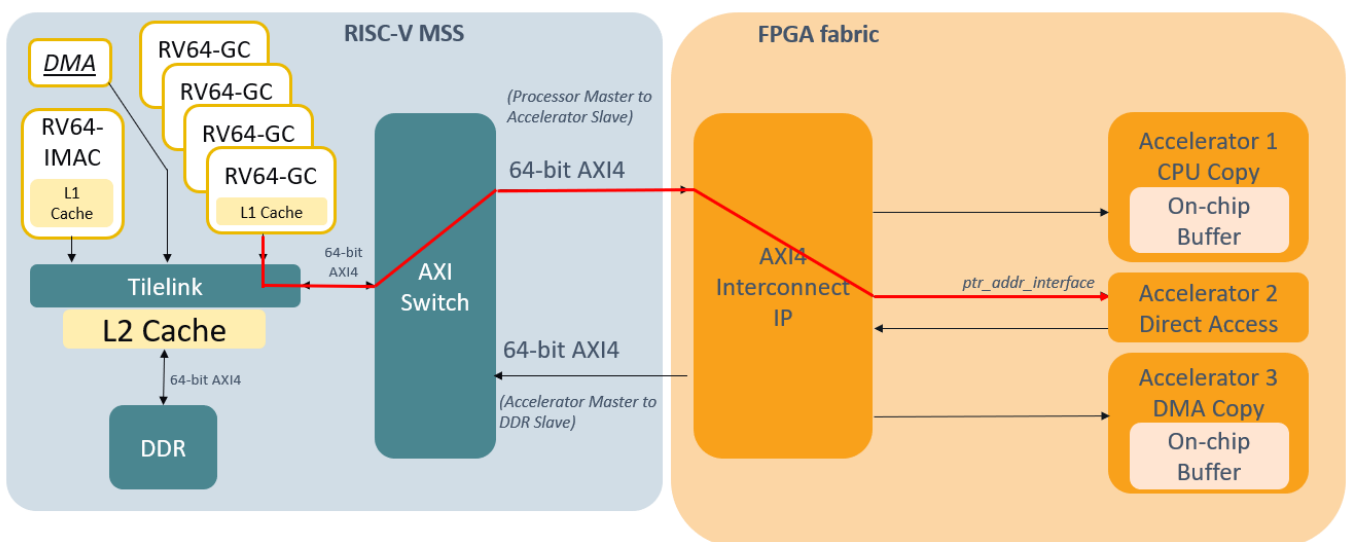
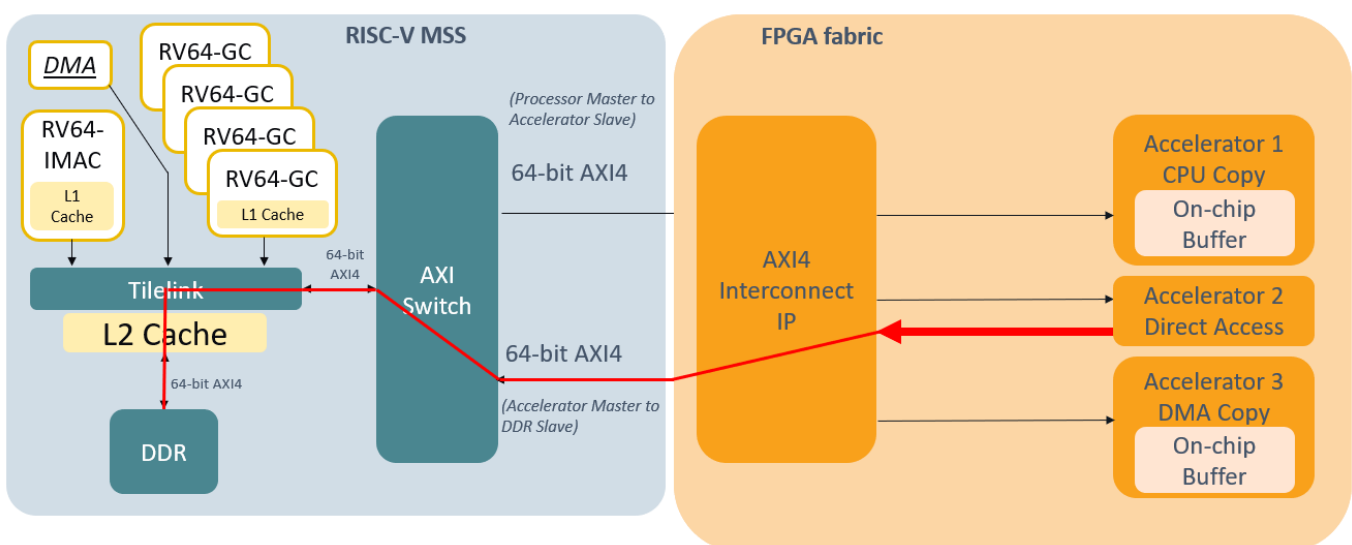

Figure 6-36 MSS Sends the Pointer to Accelerator AXI Target Interface in Direct Access Mode
Figure 6-37 Accelerator AXI Initiator Interface Requests Data Directly from DDR in Direct Access Mode
1. AXI Target: The accelerator receives a pointer to where the argument is stored (e.g. address in DDR memory) through the `ptr_addr_interface` AXI Target interface from the MSS (Figure 6-36), and then
2. The accelerator using the AXI initiator interface accesses DDR memory through the MSS cache (Figure 6-37).
Line 124 specifies the default control type for `axi_target`, which is redundant since the default interface type was defined as `axi_target` on line 123. The interface type for arguments `a`, `b` and `result` is set to `axi_initiator` on lines 125-129. The `ptr_addr_interface` sub-option on line 126 specifies the type of interface that is used to receive the pointer address to access the argument. In this case, the pointer address of argument "`a`" will be received with the AXI target interface as shown in Figure 6-36, and this pointer address will be used to access the data for argument "`a`" with the AXI initiator interface as shown in Figure 6-37. If the `ptr_addr_interface` is not specified, for example for argument `b`, SmartHLS will use the default interface type defined on line 123 (`axi_target`). See the AXI4 Initiator Interface section of the user guide.